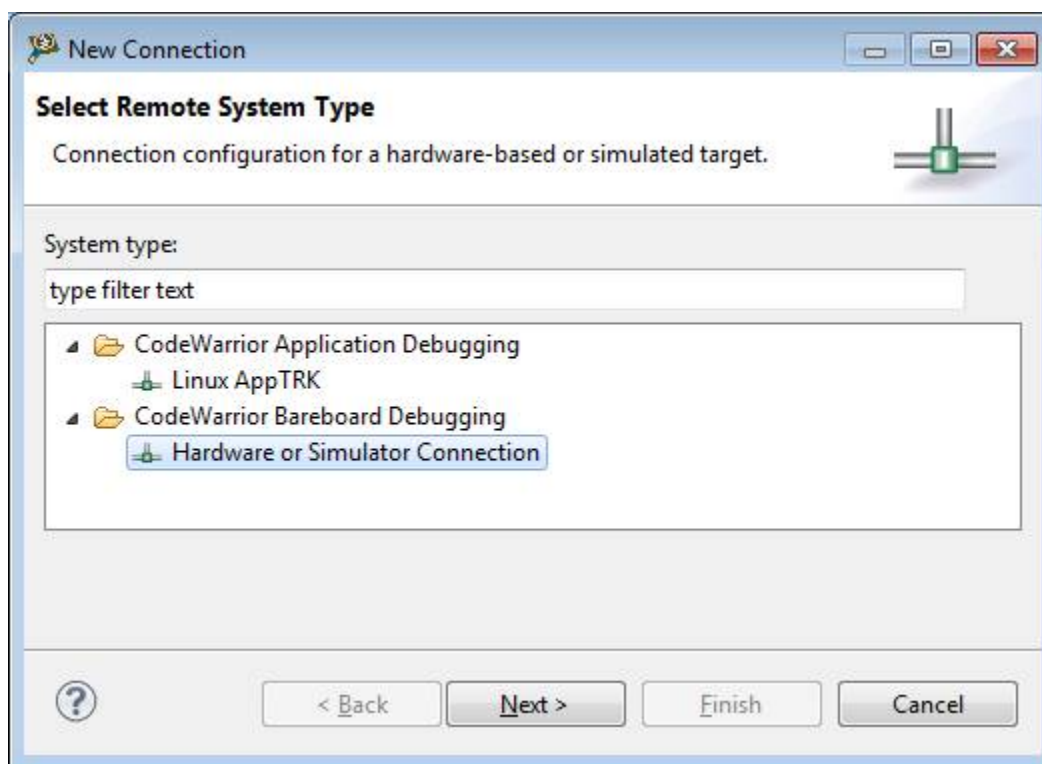

Figure A-3. Setting CodeWarrior Remote System Type
4. Select "Hardware or Simulator Connection" (see Figure A-3) and Click Next.